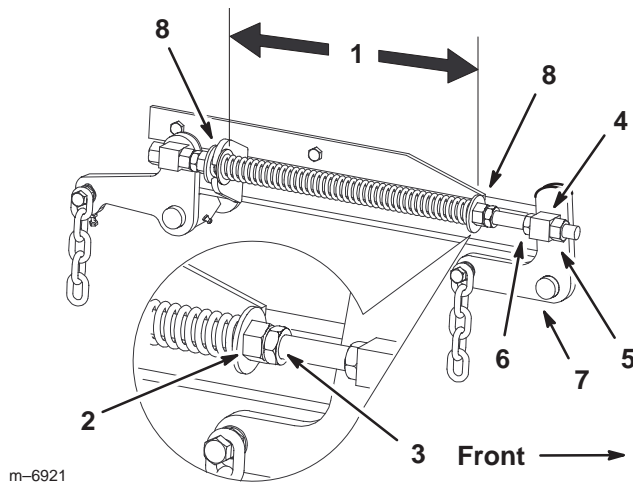

Figure 55
- Loosen the front swivel jam nuts, at the front of the right and left swivels, approximately a 1/2 inch (13 mm) (Fig. 55).
- Adjust the lift nuts on both the left and the right side of the machine to achieve **1/4 to 3/8 inch (6 to 10 mm) lower in front at A than in the rear at B** (Fig. 55).
1. Raise the mower lift lever to the transport position (Fig. 55).
2. Check the distance between the two large washers, it needs to be 10–1/4 inches (260 mm) (Fig. 55).
3. Adjust this distance, by loosening the spring jam nut and turning the nut in front of each spring (Fig. 55). Turning the nut clockwise will shorten the spring; counter-clockwise will lengthen the spring.
4. Lock the nut into position by tightening the spring jam nut (Fig. 55).